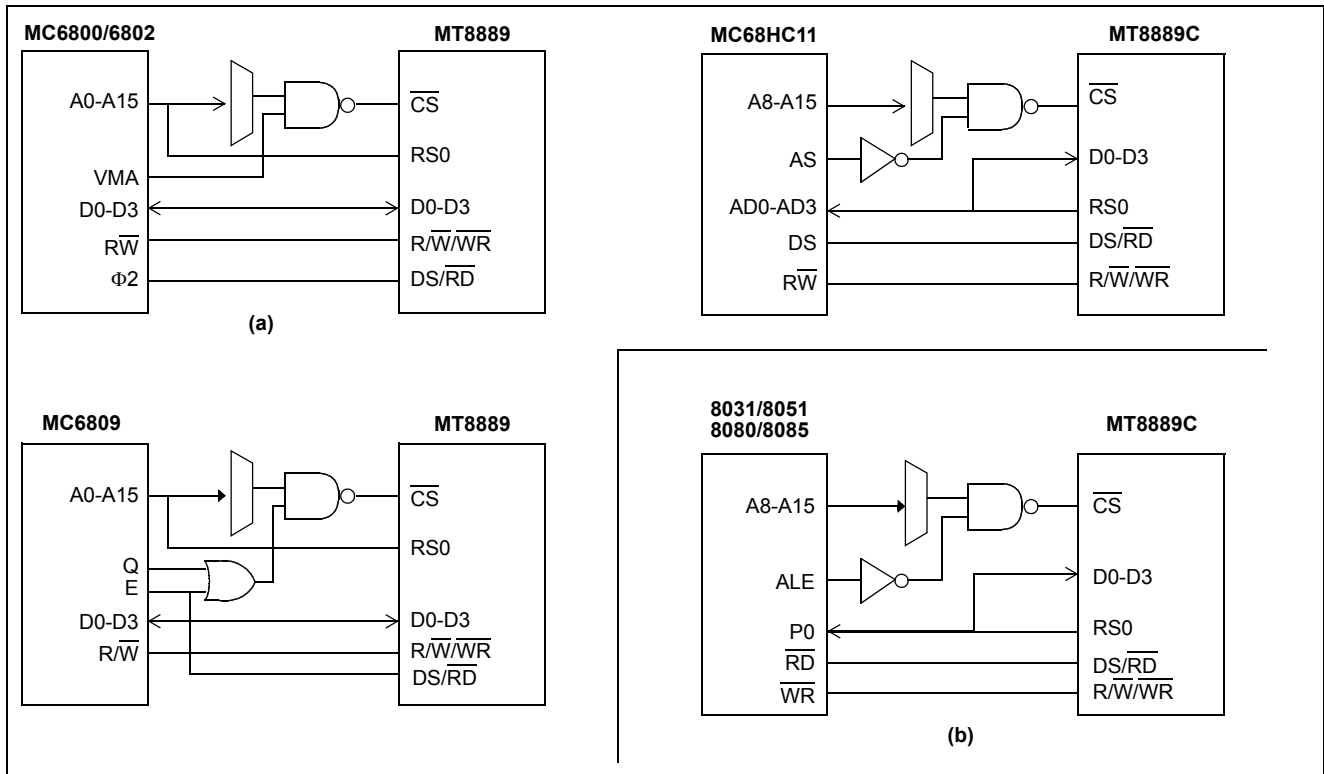

Figure 14 - a) & b) - MT8889 Interface Connections for Various Intel and Motorola Micros
Figure 20 shows the timing diagram for the Motorola MC68HC11 (1 MHz) microcontroller. The chip select ( $\overline{CS}$ ) input is formed by NANDing address strobe (AS) and address decode output. Again, the MT8889C examines the state of DS on the falling edge of  $\overline{CS}$  to determine if the micro has a Motorola bus (when DS is low). Additionally, the Texas Instruments TMS370CX5X is qualified to have a Motorola interface. Figure 14(a) summarizes connection of these Motorola processors to the MT8889C DTMF transceiver.
Figures 21 and 22 are the timing diagrams for the Intel 8031/8051 (12 MHz) and 8085 (5 MHz) micro-controllers with multiplexed address and data buses. The MT8889C latches in the state of  $\overline{RD}$  on the falling edge of  $\overline{CS}$ . When  $\overline{RD}$  is high, Intel processor operation is selected. By NANDing the address latch enable (ALE) output with the high-byte address (P2) decode output,  $\overline{CS}$  can be generated. Figure 14(b) summarizes the connection of these Intel processors to the MT8889C transceiver.